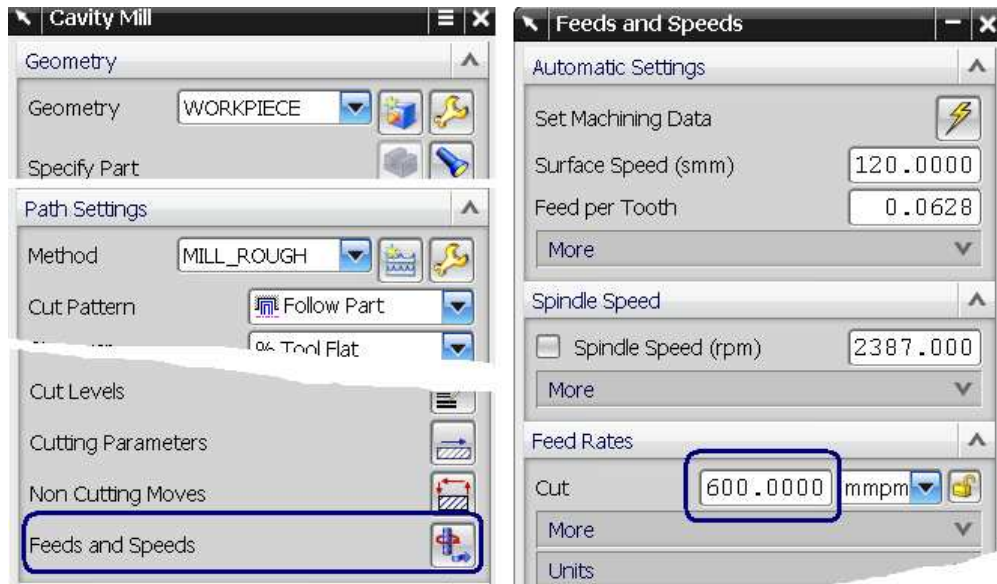

Figure 8.5 Feed value editing.
15. Click on the *Feeds and Speeds* icon in the dialog box – figure 8.5 on the right-hand side.
16. Change the *Cut* feed value (main feed rate) — figure 8.5 on the right-hand side — to a randomly chosen value, other than the current one and exit the operation using the *OK* buttons.